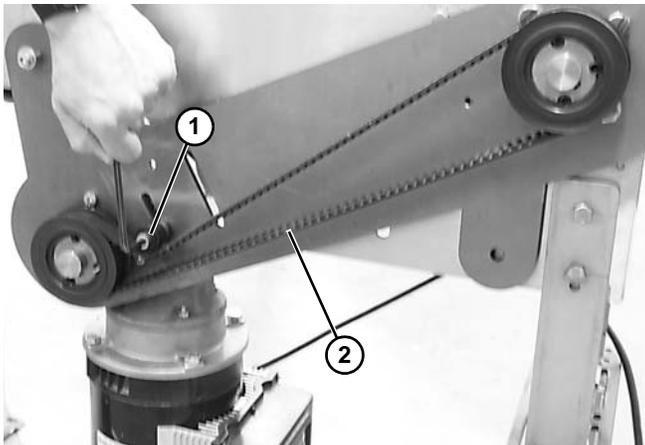

Figure 49
2. Loosen belt tensioner (Figure 49, item 1) and remove timing belt (Figure 49, item 2).